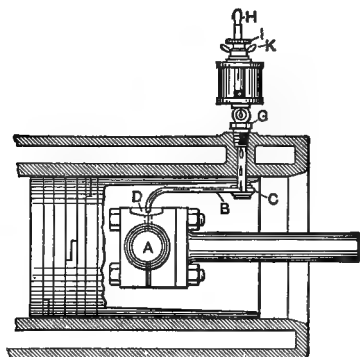

FIG. 19.—Piston Pin Oil Feed.
63. Piston and Ring Defects and Their Remedy.—Two special remedies may be relied upon to prevent nearly every defect of piston and rings; cleanliness and lubrication. Unlike other machine bearings, the temperature is so high that ordinary lubricating oil, if used on the piston, is carbonized before its mission is accomplished, while every flash of the fuel in the presence of poor oil deposits a new layer of carbon, gum and trouble-breeding residue. The best of gasoline engine cylinder oil must be used at this point or there is sure to be trouble. All modern gasoline engines have some provision (see Fig. 19) for feeding the oil in a small but continuous supply against the piston